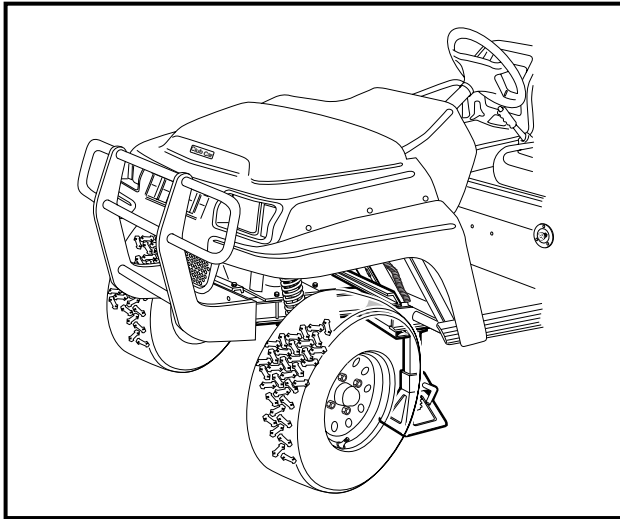

Figure 5-2 Jack Stand Location on I-Beam
3. Place chocks under rear wheels and lift front end of vehicle with a chain hoist or floor jack. Place jack stands under the outer front I-beam of the vehicle frame and lower the vehicle onto the jack stands (**Figure 5-2, Page 5-3**). **See following WARNING.**
3. Place chocks under the rear wheels and lift the front end of the vehicle with a chain hoist or floor jack. Place jack stands under the outer front I-beam of the vehicle frame and lower the vehicle onto the jack stands (**Figure 5-2, Page 5-3**).